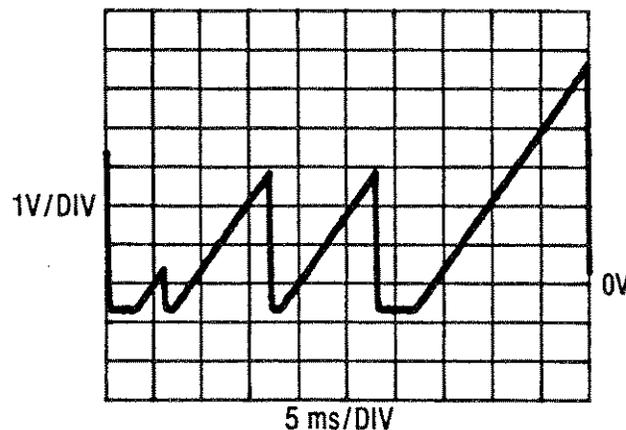

Figure 8-46. Analog to Digital Converter Ramp Waveform
6. Compare the waveform at A5TP1 with Figure 8-46.